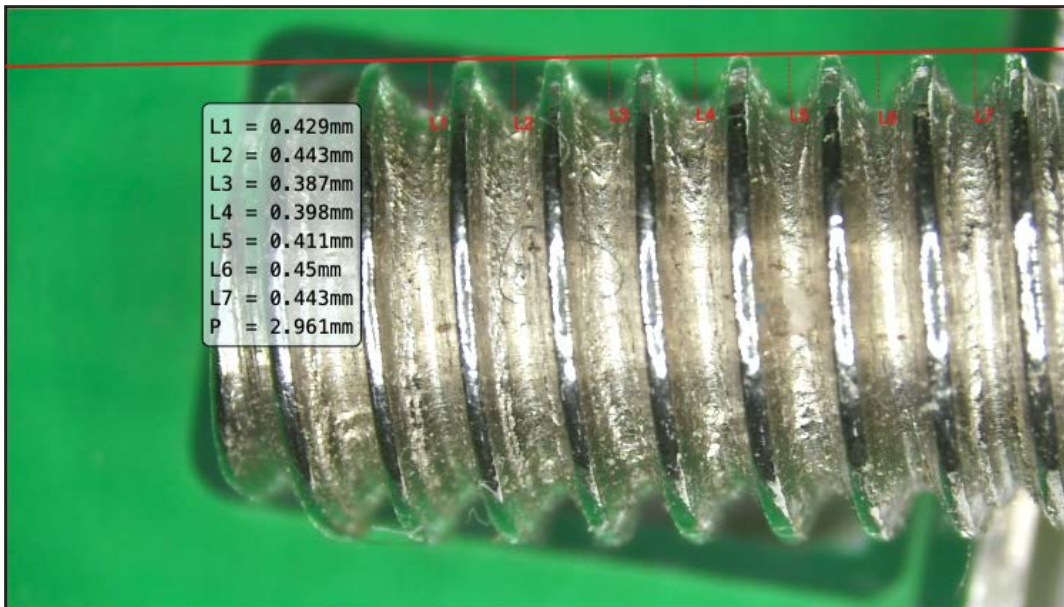

Figure 5-11 Example of perpendicular line measurement
(9) Perpendicular Line : Apply  to measure perpendicular, as shown in Figure 5-11, first draw the first straight line on the baseline to be measured, and then the user will draw a preview vertical line at the mouse pointer, aiming at the target object to be measured. Then, press the left button of the mouse to measure the perpendicular length of the target object and the reference line. Press the right button to cancel the current measurement action.